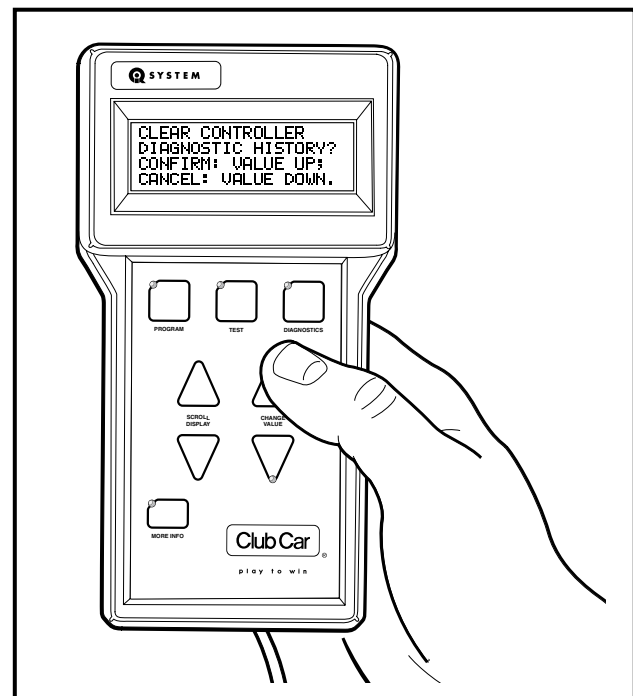

Figure 20 Clearing Diagnostic History
5. After pressing the MORE INFO button, a prompt will appear to confirm the operation (**Figure 20**). To abort the operation, press the CHANGE VALUE down button; otherwise, proceed to the next step.